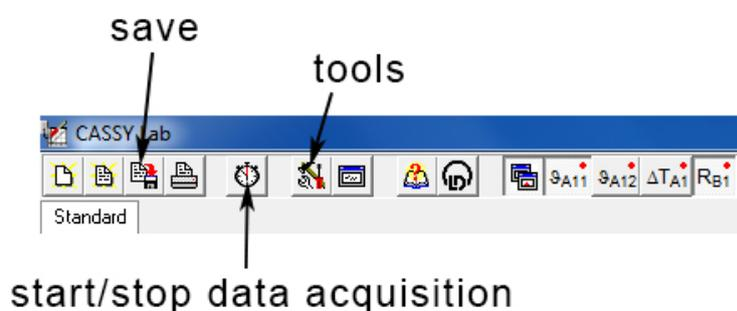

Figure 3: Icons on CASSY lab.
5. To begin data acquisition, click the clock icon in CASSY lab as shown in Figure 3. Continue taking data for about 10 minutes and then click the clock again to stop data acquisition.
To allow for data analysis data should be exported from CASSY lab (save data as .txt then open in Excel as shown in Figure 3). This way data fitting may be performed and units corrected.
1. Click on the save icon as shown in Figure 3